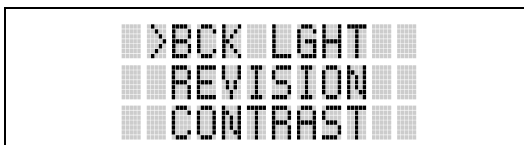

Figure 10-6: Menu Display
2. Upon entering the menu selection mode, Menu options will appear in the display (see Figure 10-6).